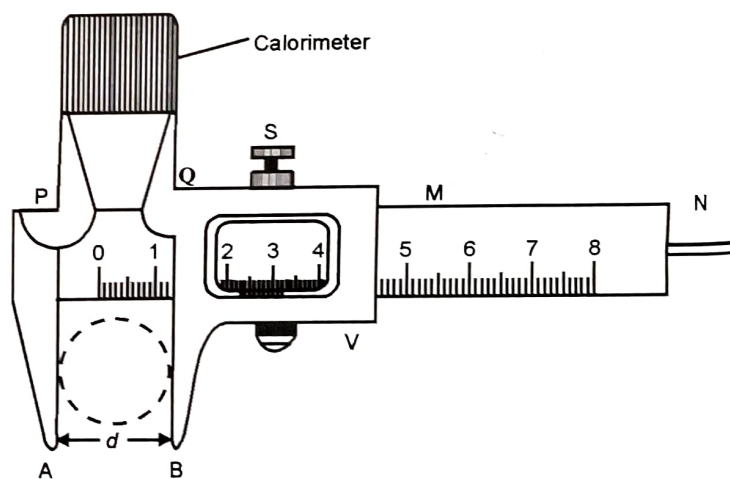

Fig. 10. Measurement of internal diameter of a calorimeter
9. Insert the jaws P and Q (Fig. 10) in the interior of calorimeter and adjust the position of movable jaw so that P and Q touch the walls of the calorimeter gently. Tight the screw S attached to the vernier scale.
15. Keep the edge of main scale of Vernier Callipers on the upper edge of the calorimeter so that strip N is able to go inside the calorimeter along its length as shown in Fig. 10.